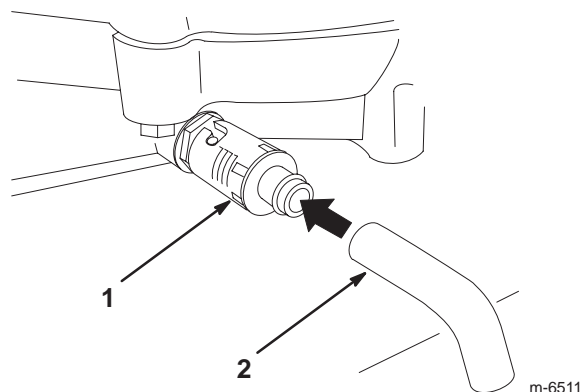

Figure 26
5. Place a pan below the drain hose. Rotate the drain valve to allow the oil to drain (Fig. 26).
6. When the oil has drained completely, close the oil drain valve and remove the drain hose (Fig. 26).